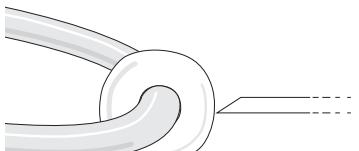

Fig. 21—Pipette tip close to glass bead
3. With heat off, move the tip close to the point that the filament expanded to (Fig. 21).